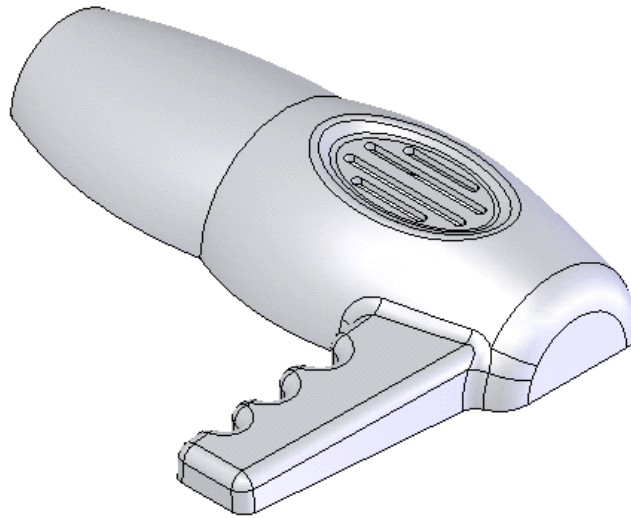
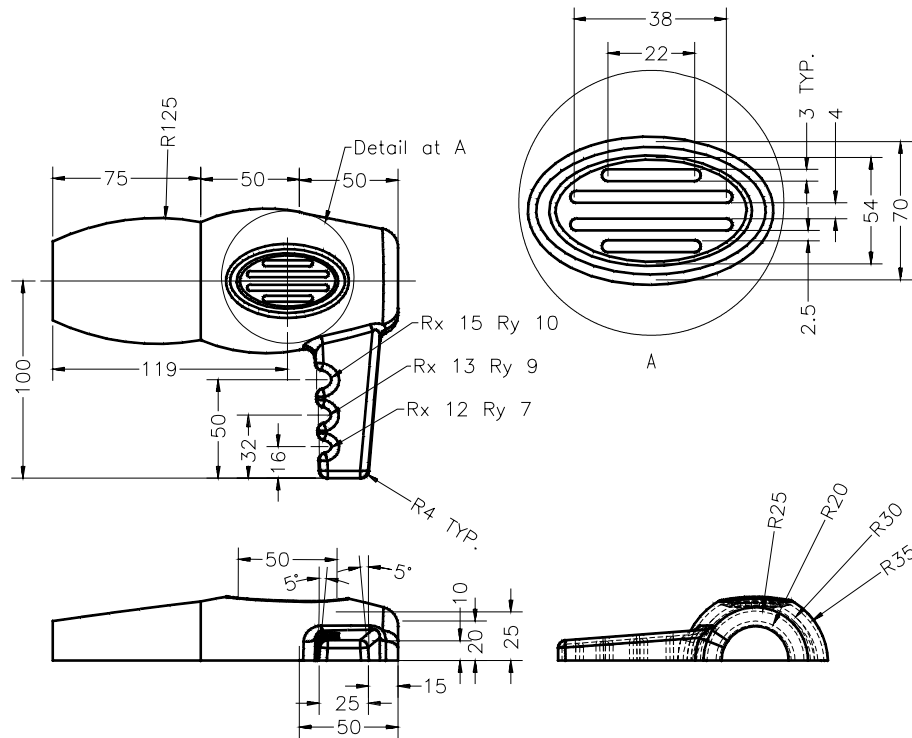

Figure 15-117 Cover of hair dryer
Figure 15-118 Views and dimensions for the model of Tutorial 2
In this tutorial you will create the cover of the hair dryer shown in Figure 15-117. You will create this model using surfaces and then you will thicken it. The views and dimensions of the hair dryer are displayed in Figure 15-118. **(Expected time: 1.5 hr)**
2. Create the sketch of the air vents, refer to Figure 15-118.